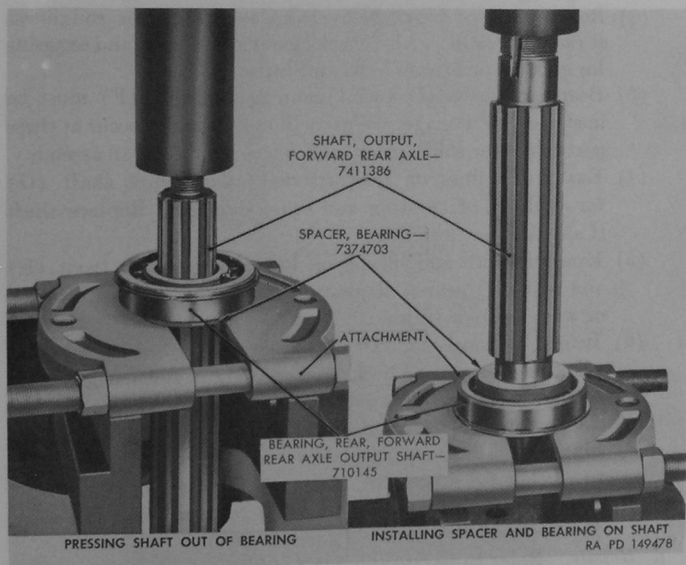
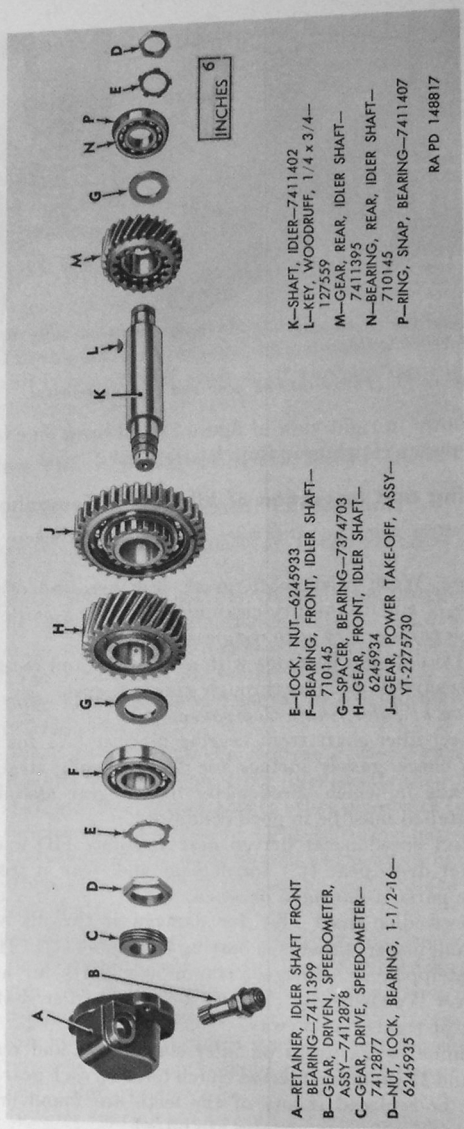
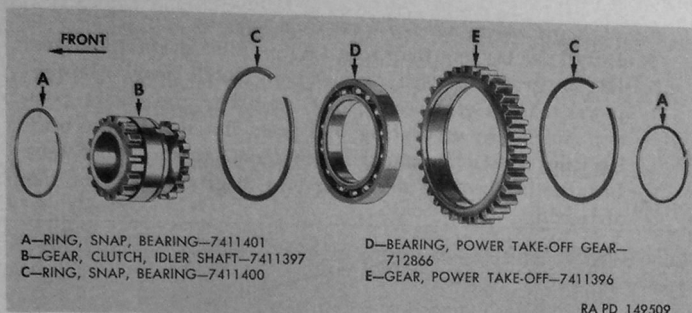

Figure 73. Use of attachment 41-A-345-328 (part of puller set 41-P-2905-60) for removing and installing rear bearing on forward rear axle output shaft.
Figure 76. Transfer idler shaft and related components.
Figure 77. Power take-off gear and related components.
on output shaft and support shaft and bearing assembly in arbor press as shown in figure 73. Press shaft out of bearing and remove spacer from shaft.
- (1) Adjust opening in attachment 41-A-345-328 (part of puller set 41-P-2905-60) to support output shaft rear bearing at inner race; then place bearing and spacer and attachment on arbor press in position shown in right view of figure 73.
- (2) Insert splined end of output shaft downward through spacer and bearing; then press shaft through bearing until shaft shoulder bottoms on spacer.
*Note.* Key letters noted in parentheses are in figure 77 unless otherwise indicated.
*a. General.* When idler shaft is removed from transfer case during disassembly of transfer into subassemblies, all components are removed from idler shaft except rear bearing, bearing spacer, and Woodruff key. The instructions for further disassembly of power take-off gear assembly (J, fig. 76) and removal of bearing and spacer from idler shaft are covered below.
- (1) Remove Woodruff key from idler shaft; then position idler shaft and bearing assembly in arbor press with bearing spacer supported on attachment 41-A-345-328 (part of puller set 41-P-2905-60) in same manner as shown in figure 73.
- (2) Press idler shaft out of bearing and remove spacer from idler shaft.
*Note.* Key letters noted in parentheses are in figure 76 unless otherwise indicated.
*a. Cleaning.* Wash idler shaft, gears, bearings, and other components (figs. 77 and 76) in dry-cleaning solvent or volatile mineral spirits. Wipe parts or dry with compressed air.
- (1) Inspect idler shaft front bearing retainer (A) for damage. Also check gasket surface for flatness using straightedge. Threads in which speedometer driven gear assembly (B) is installed must be in good condition.
- (2) Inspect speedometer driven gear assembly (B) and speedometer drive gear (C) for damage and wear at teeth. Replace parts if damaged or worn.
- (3) Inspect idler shaft (K) for damage at threads on either end and inspect threads in bearing lock nuts (D). If threads are stripped or damaged, obtain new parts for assembly. Inspect Woodruff key (L) and keyway in idler shaft. Key must fit tightly in keyway.
- (4) Examine helical teeth on idler shaft front and rear gears (H and M) and the internal clutch teeth on each gear. Gears must be replaced if any of the teeth are found broken or chipped, or if drive surfaces are pitted.
- (5) Inspect bearing spacers (G) which must be flat and have no evidence of wear.
- (6) Power take-off gear assembly (J) is composed of the components shown in figure 77. Refer to *c* below for inspection procedure for these components.
- (1) Inspect bearing snap rings (A and C, fig. 77) for distortion and for wear. Rings must be flat and round. Discard rings if not in good condition.
- (2) Inspect idler shaft clutch gear (B, fig. 77) which has clutch teeth at both ends. If any of the teeth are chipped, broken, or worn, clutch gear must be replaced with new part.
- (3) Inspect power take-off gear bearing (D, fig. 77) for roughness of races and balls by turning bearing races by hand. If rough spots are felt or if races are cracked or broken, replace bearing. Excessive looseness of balls allowing radial movement of inner race indicates worn bearing which must be replaced.
- (4) Examine teeth on power take-off gear (E, fig. 77). If any teeth are found to be broken, chipped, or pitted, the gear must be replaced.
*a. General.*—Components of power take-off gear (fig. 77) must be assembled into a subassembly before installing idler shaft in transfer case. Power take-off gear assembly (J, fig. 76) and balance of idler shaft components except Woodruff key (L, fig. 76), bearing spacer (G, fig. 76), idler shaft rear bearing (N, fig. 76), nut lock (E, fig. 76), and bearing lock nut (D, fig. 76) are assembled in transfer case as described in procedure for installing idler shaft (par. 116). Refer to *b* and *c* below for procedure for assembling power take-off gear assembly and for installing idler shaft rear bearing and bearing spacer.
- (1) Support idler shaft rear bearing (N, fig. 76) on attachment 41-A-345-328 (part of puller set 41-P-2905-60) in arbor press. Lay bearing spacer (G, fig. 76) on bearing and insert rear end of idler shaft (K, fig. 76) through spacer and into bearing in same manner as illustrated in right view of figure 73.
- (2) Press idler shaft into bearing until shoulder on shaft contacts bearing spacer (G, fig. 76).
- (3) Remove idler shaft (K, fig. 76) from press and drive  $\frac{1}{4} \times \frac{3}{4}$  Woodruff key (L, fig. 76) into place in keyway in idler shaft.
- (4) Grip idler shaft (K, fig. 76) in vise equipped with soft jaws.
Install new bearing nut lock (E, fig. 76) and bearing lock nut (D, fig. 76) on rear end of idler shaft. Final tightening of nut is deferred until idler shaft has been installed in transfer case (par. 116).
a. Make up an assembly composed of idler shaft rear gear (V) and idler shaft front gear (BA) mated with power take-off gear assembly ((J), fig. 76) and hold these parts in position inside transfer case.